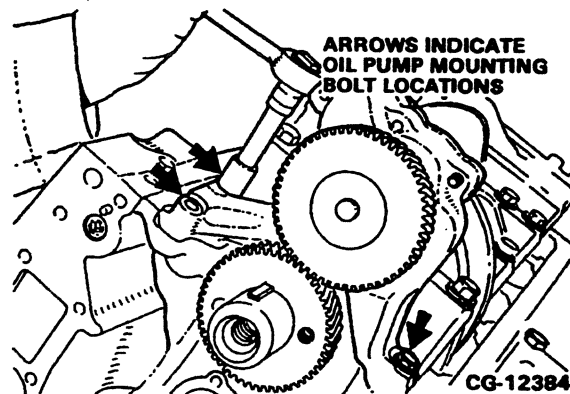

Figure 8.9. Remove Oil Pump Assembly
7. Loosen and remove the three oil pump mounting bolts and washers (**Figure 8.9**) then remove the oil pump from the crankcase.